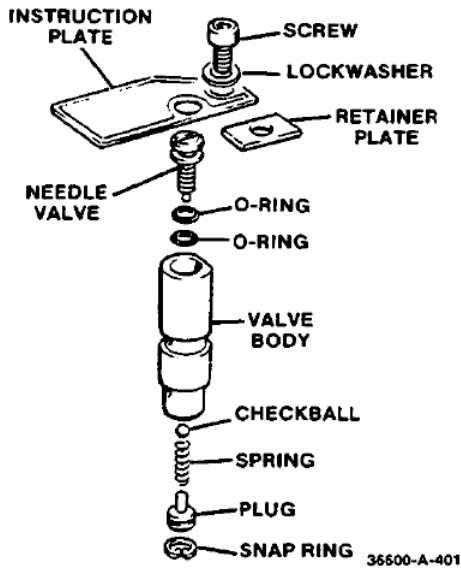

Figure 5-38. Timing Valve
(Figures 5-38 through 5-66)
2. Clean both timing valves, replace O-rings on needle valves, insert in column, and secure with retainer plate, instruction plate, lockwasher and screw (Figure 5-38).